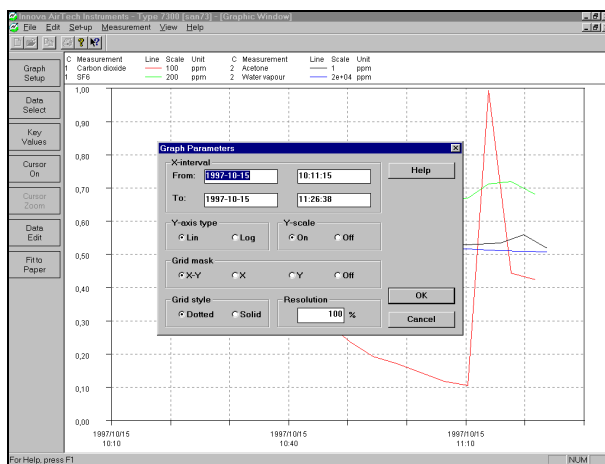

Fig 5.2 The Graph Parameters dialogue
2. Click on Graph Set-up in the panel. The Graph Parameters dialogue will be displayed, Fig. 5.2.